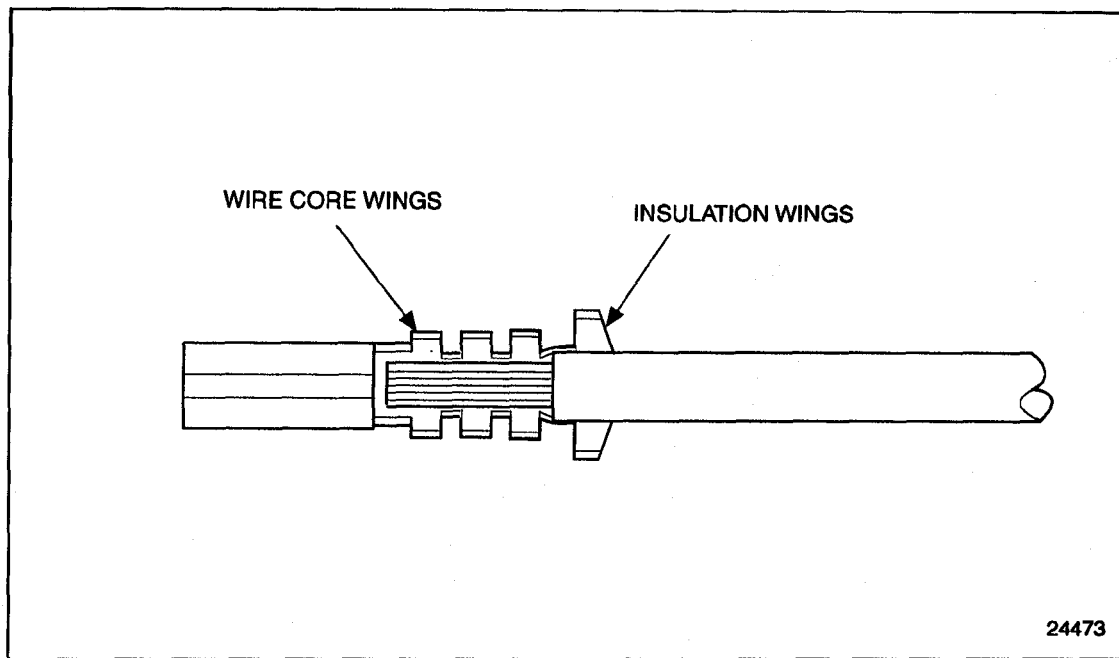

Figure 8-32 Cable to Terminal Alignment
6. Insert the cable into the terminal until the stripped portion is positioned in the wire core wings, and the insulation portion ends just forward of the insulation wings. See Figure 8-32.